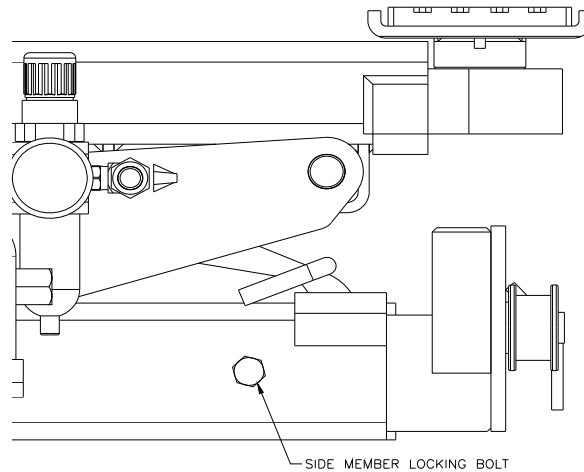

Fig. 2
- 2) Once side members are adjusted and jack is centered between the rails, tighten the (4) hex bolts (2 per side) to lock in place, Fig 2.